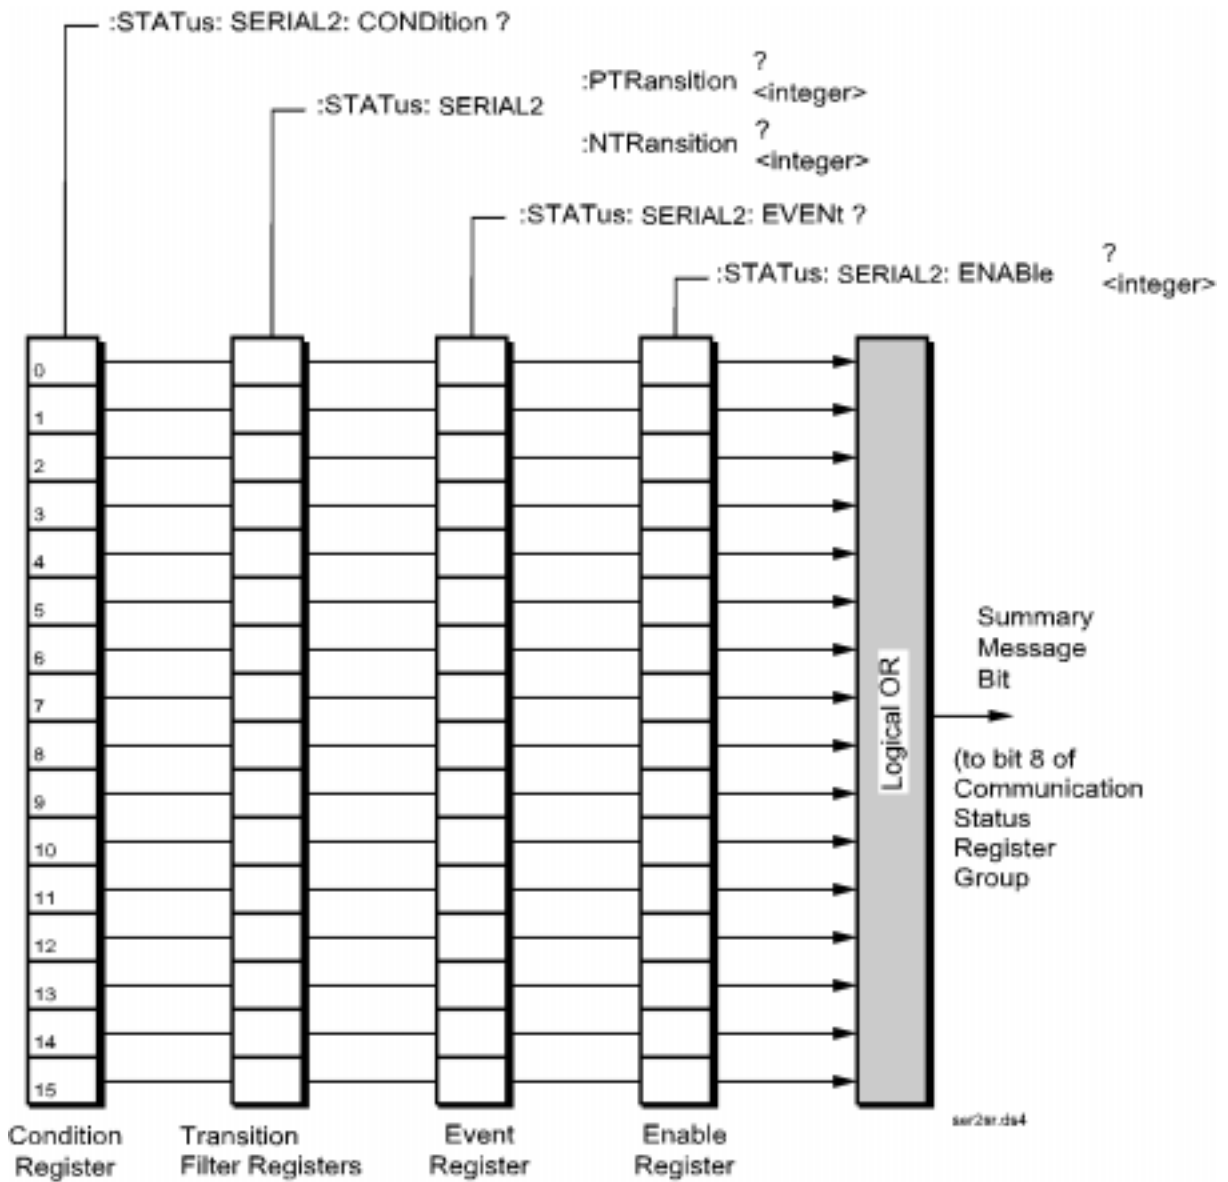

Figure 27 Serial 2 Status Register Group
**Figure 27 on page 191** shows the structure and STATus commands for the Serial 2 Status Register Group.